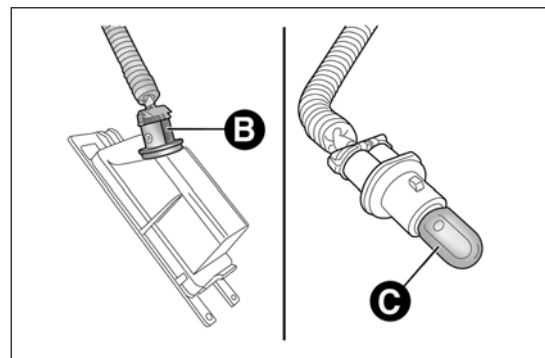

fig. 139
- ☐ turn the bulb holder B fig. 139 anticlockwise, extract the bulb C and replace it;